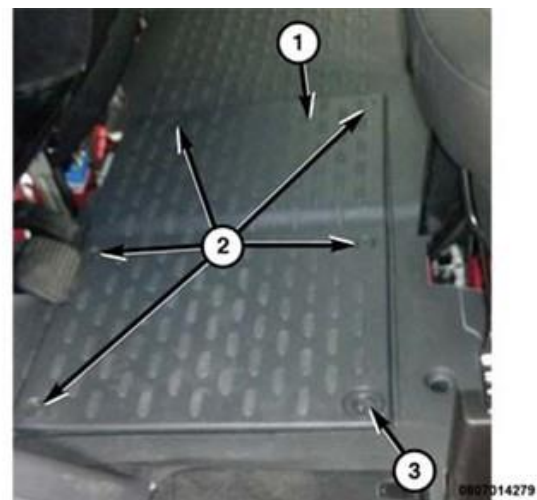

Figure 1 – Battery Cover
2. Remove the battery cover (1) by loosening fasteners (2, 3) (Figure 1).
63. Install the battery cover (1) and secure the fasteners (2, 3) (Figure 1).